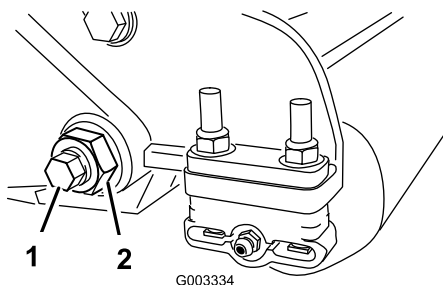
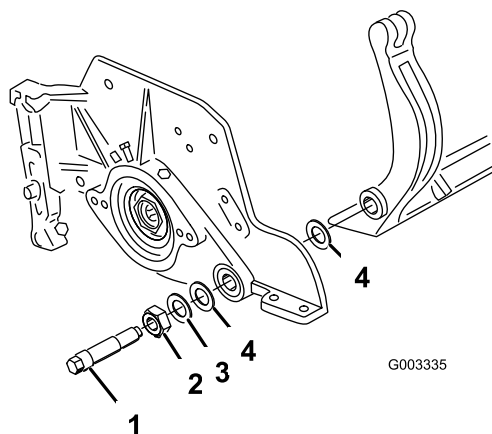

Figure 26
Figure 27
3. On each side of the machine, loosen the locknut securing the bedbar bolt (Figure 26).
4. Remove each bedbar bolt allowing bedbar to be pulled downward and removed from machine bolt (Figure 26). Account for 2 nylon and 1 stamped steel washers on each end of bedbar (Figure 27).
2. Secure bedbar to each side plate with bedbar bolts (nuts on bolts) and 6 washers. A nylon washer is to be positioned on each side of side plate boss. Place a steel washer outside each of the nylon washers (Figure 27). Torque bedbar bolts to 27-33 ft.-lb. Tighten locknuts until the outside steel washer stops rotating and end play is removed but do not overtighten or deflect side plates. Washers on inside may have a gap.